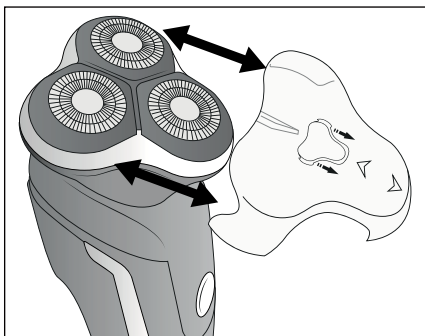

Fig. 1
- ◆ When you are not using the shaver, protect the shaving head by putting on the protective cap ❶.
- ◆  Remove the protective cap ❶ by pulling it downwards off the cutting unit ❷ (see Fig. 1).